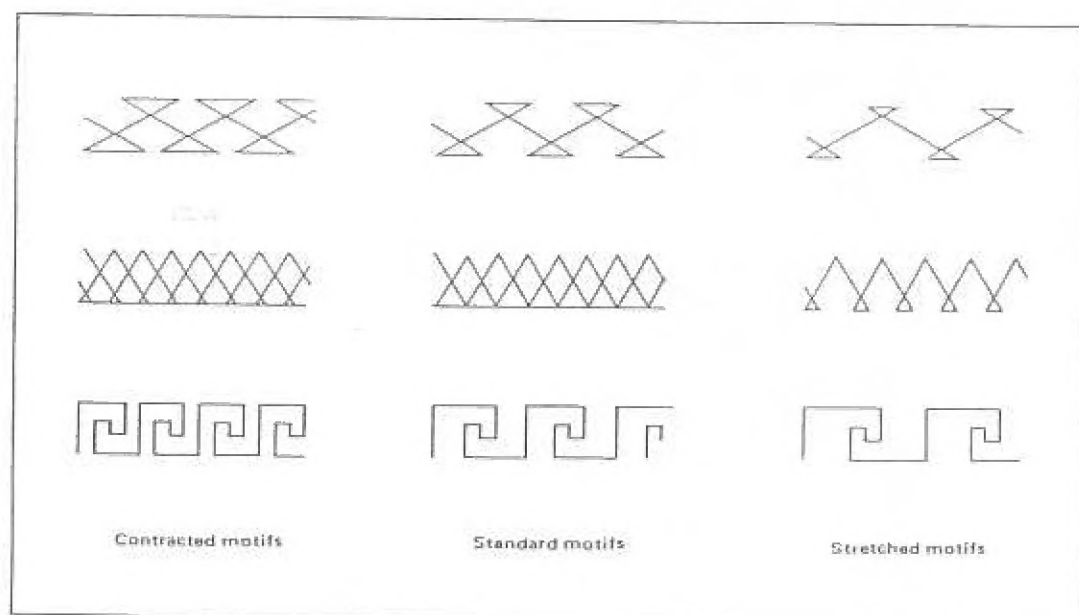

Fig. 73
- 1) To contract embroidery motifs in length, turn the expansion dial toward "-". (Fig. 73)
- 2) To sew standard size of embroidery motifs, set the expansion dial at the pointer. (Fig. 73)
- 3) To stretch embroidery motifs in length, turn the expansion dial toward "+". (Fig. 73)